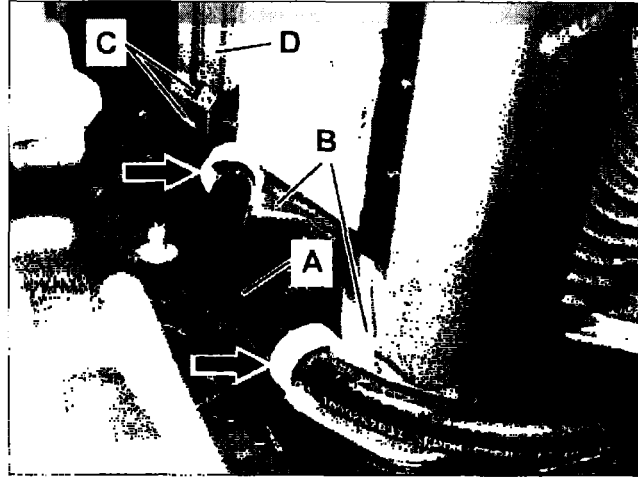

Figure 25
25. Secure new SBC suction hose (A, Figure 25) to SBC hydraulic unit mounting bracket (B) using **new** (“omega” type) mounting clips (arrows).
26. Insert a cable tie through slots (C, Figure 25) in bracket (D), **do not** close cable tie